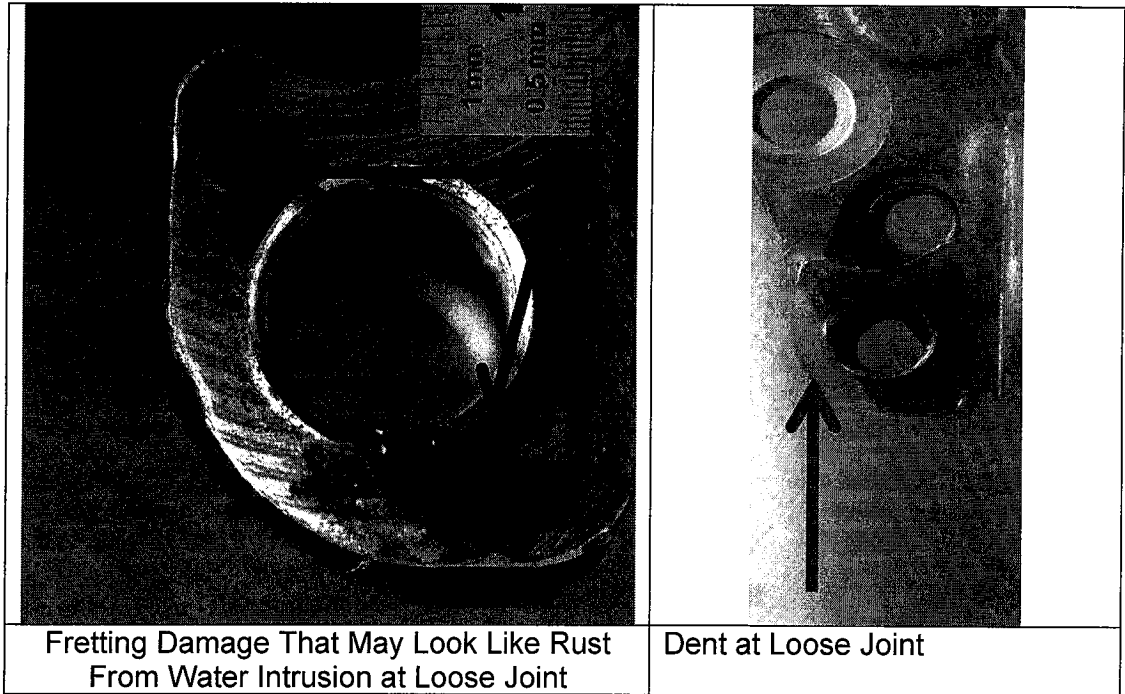
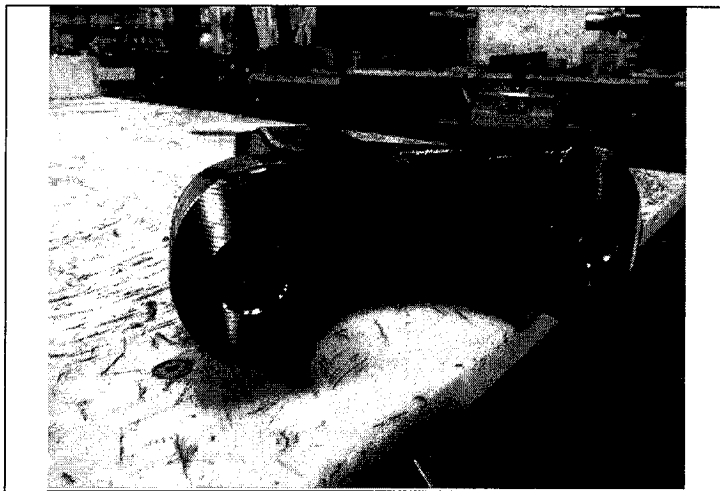

Figure 2 – Damaged Joint Surfaces
Figure 3 – New (Undamaged) Joint Surface
6. Inspect the joint surface between the steering arm and steering knuckle for signs of fretting, dents, or other damage from the loose capscrew(s). See Figure 2 for examples of damaged parts, and Figure 3 for an example of a new part.